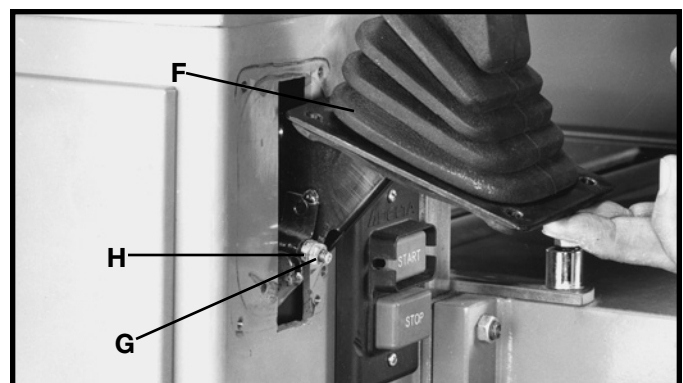

Fig. 32
4. Raise boot (F) Fig. 32, to gain access to adjustment hardware.
5. Loosen jam nut (G) Fig. 32, and tighten or loosen adjustment hex nut (H) as necessary to adjust feed roller belt tension.
6. Tighten jam nut (G) Fig. 32, against hex nut (H) after adjustment is made.
7. Replace the engagement lever boot (F) Fig. 32.